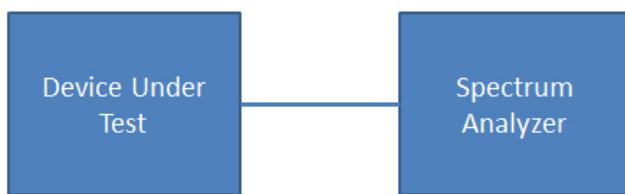

Figure 10. Test set-up for most un-triggered P25 measurements.
- **Connectivity:** The user needs to connect the output of the Device Under Test (DUT) to the RF input of the Spectrum Analyzer as shown in Figure 10.
- Connectivity:** The user needs to connect the output of the DUT to the RF input of the Spectrum Analyzer as shown in Figure 10.